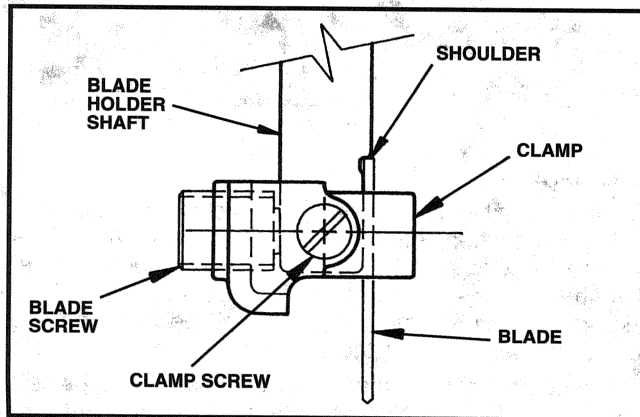

Fig. 4
2. Insert screwdriver behind blade holder shaft, Fig. 4, and move shaft forward to allow assembly of clamp. Position clamp on blade holder shaft as shown in Fig. 4, and tighten clamp screw; then loosen clamp screw $\frac{1}{4}$ turn.
3. Install "universal" blade (with teeth facing forward) until top of blade contacts shoulder, Fig. 4.